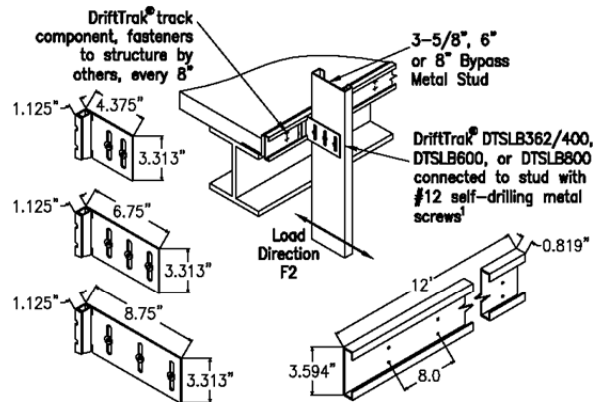

Figure 4 – DriftTrak[®] DTSLB362/400, DTSLB600 and DTSLB800
3.1.5 DriftTrak[®] DTSLB: DriftTrak[®] DTSLB362/400, 600 and 800 are L-shaped angle and track combinations that connect $3\frac{5}{8}$ - or 4-, 6- and 8-inch-deep (92 or 102, 152, and 203 mm) exterior curtain wall steel studs, respectively, to a concrete floor slab's pour-stop angle while allowing a maximum of 2 inches (51 mm) of vertical movement, and free horizontal movement between exterior wall elements and the primary structure. The minimum base-metal thickness of the clip is 0.0677 inch (1.7 mm), and the minimum base-metal thickness of the track is 0.0966 inch (2.5 mm). The long leg of the DriftTrak[®] DTSLB connector, which is fastened to the curtain wall stud, has two or three vertical slots, each $\frac{3}{8}$ inch (9.5 mm) wide by $2\frac{3}{8}$ inches (60 mm) long and has bushings designed for No. 12 self-drilling/self-tapping steel screws installed in the centers of the slots. Refer to Figure 4 for overall dimensions of each DriftClip[®] DTSL connector and a typical installation detail.